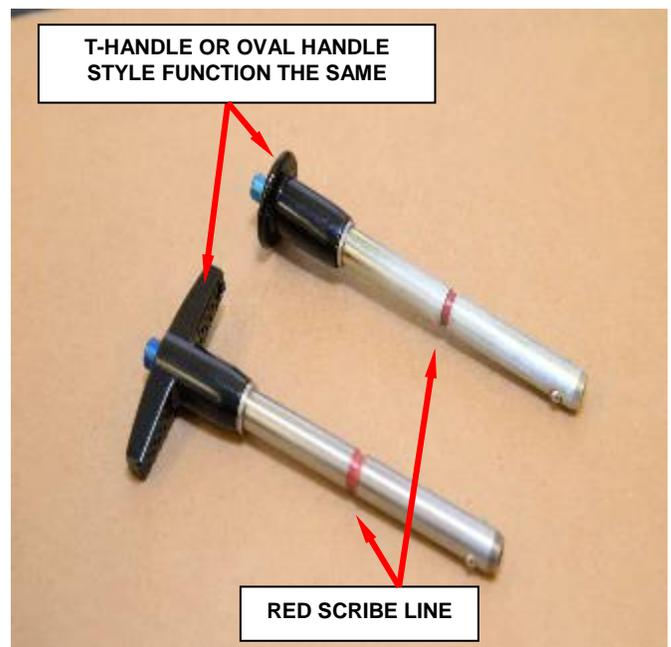

Figure 5 – Check Tool (Two Handle Styles)
12. Use the provided Check Tool, Steering Stub Shaft for the vehicle stub shaft inspection (Figure 5). See Special Tool section for rental instructions.